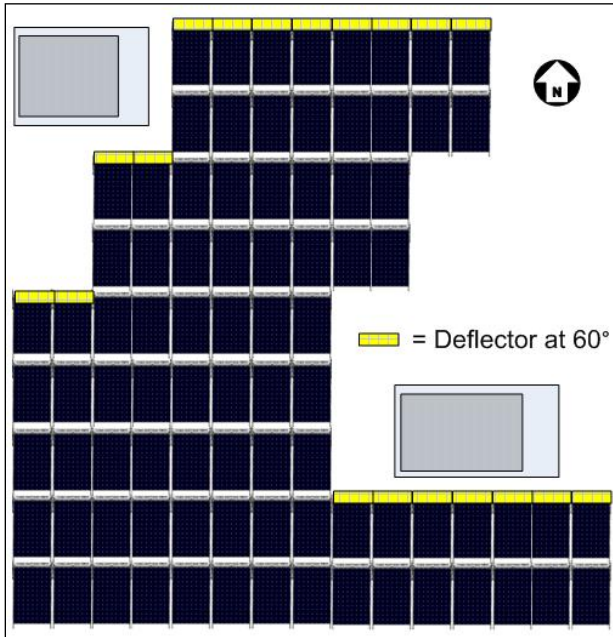
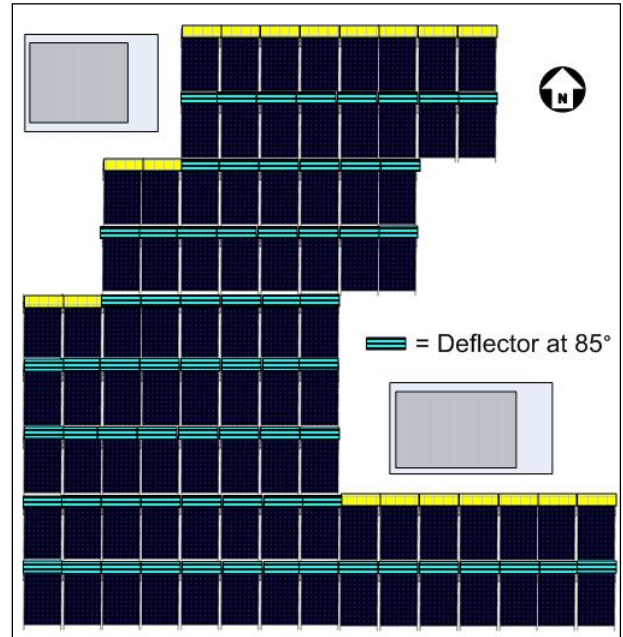
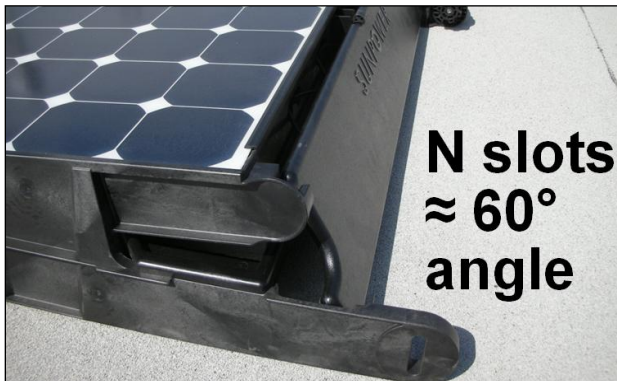
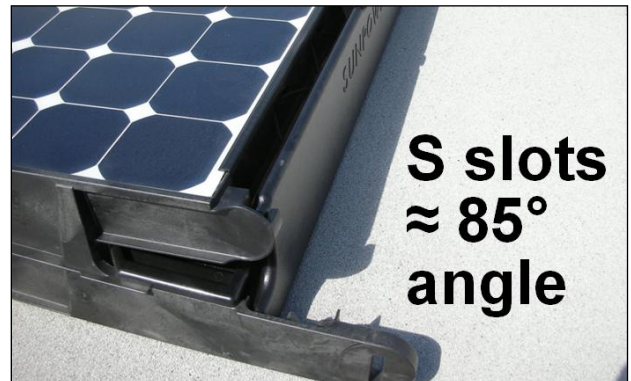

Fig. 57
Fig. 58
Fig. 59
Fig. 60
**Note.** Most modules require that their deflector's final position be 85° (refer to Fig. 58).
Deflectors must be positioned at one of two possible angles (60° or 85°), depending on their respective module's location within the array (Fig. 57, Fig. 58, Fig. 59, and Fig. 60):
<ul style="list-style-type: none"> <li>Northernmost row (refer to Fig. 57)</li> <li>Does not engage a module to its north</li> </ul>	North / 60° White arrows in Fig. 61
<ul style="list-style-type: none"> <li>All other modules (refer to Fig. 58)</li> </ul>	South / 85° Yellow arrows in Fig. 61